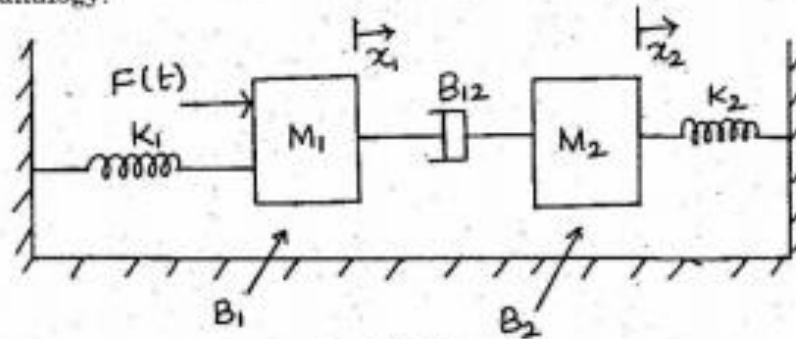

Fig. 1
11. (a) Write the differential equations for the mechanical system shown in Fig. 1. Obtain an analogous electric circuit based on force-current analogy.